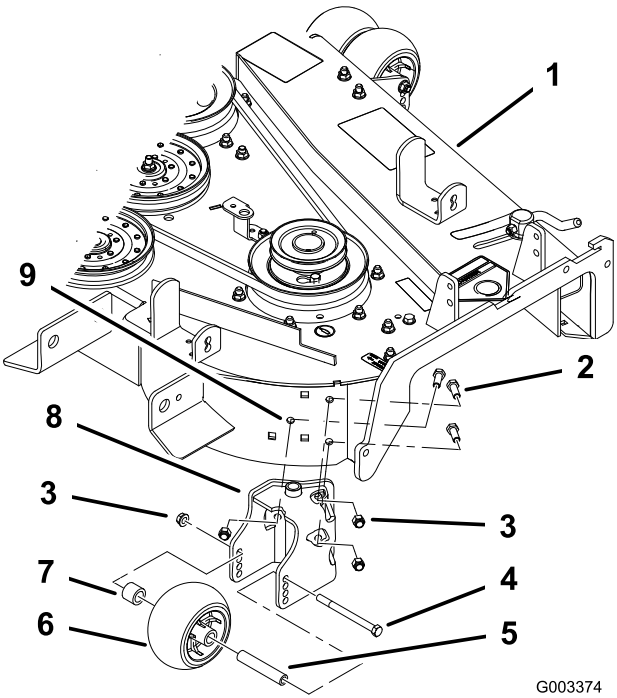

Figure 6
6. Install the new blower pivot assembly using the 3 bolts (3/8 x 1 inch) and 3 locknuts (3/8 inch) (Figure 6).
7. Install the anti-scalp roller with the axle bolt (3/8 x 4-1/2 inches), flange nut (3/8 inch) (Figure 6).